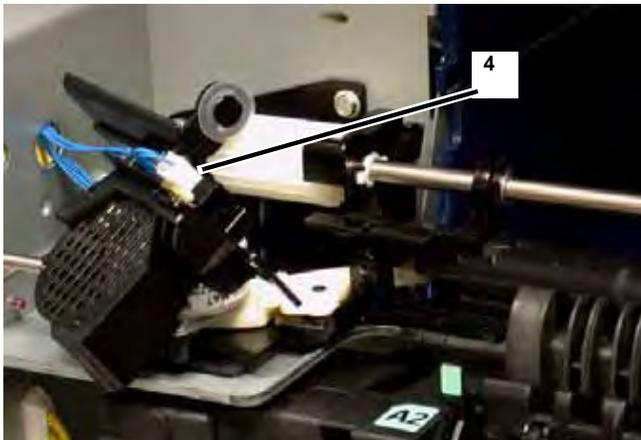

Figure 2 PJ
4. Disconnect the PJ from the sensor, and release the sensor from the cover (Figure 2).